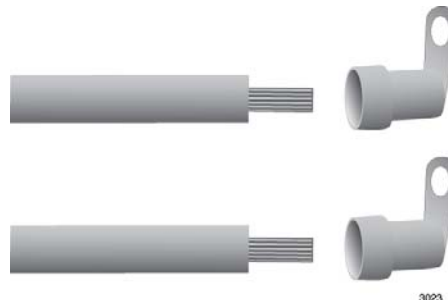

Figure 139. Attaching the Power Wires to the Right Angle Terminals
3. Insert the power wires into the right angle terminals included with the power supply and use a crimping tool to secure the wires to the terminals. See Figure 139,